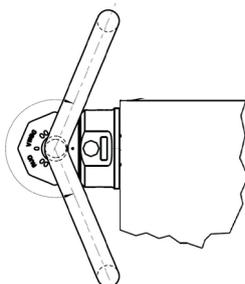

Fig. 1: Pivoting area
- The suspension ring of a manually aligned VWBS can pivot 230° (Fig. 1).